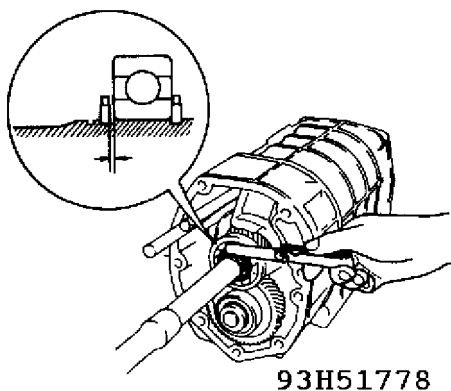

Fig. 9: Measuring Clearance Between "C" Washer and Rear Bearing (R-Type)
3. Measure the clearance between the "C" washers and mainshaft rear bearing. See Fig. 9.